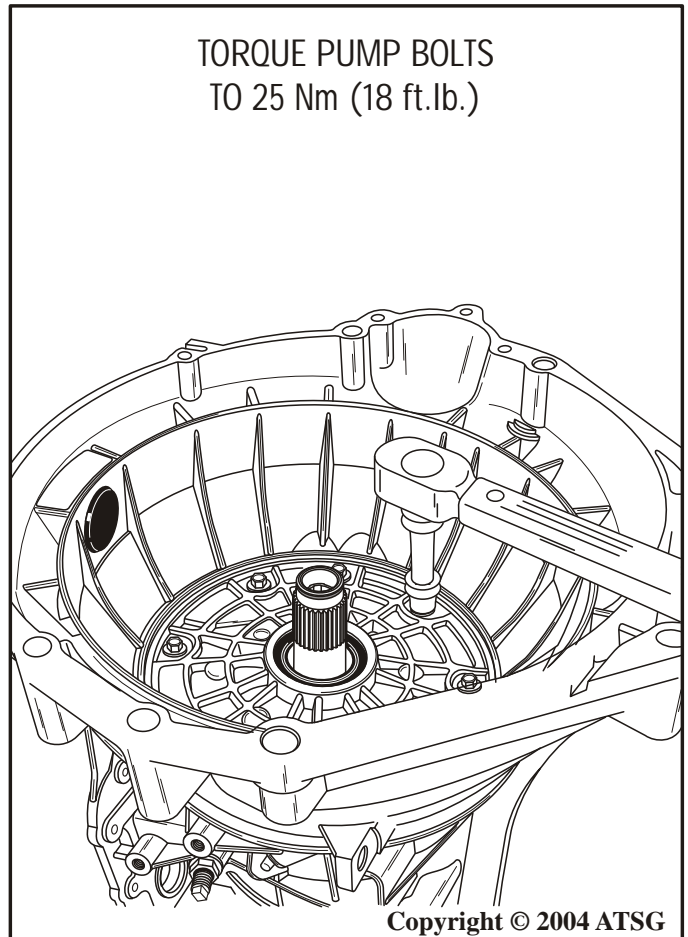

Figure 168
57. Install the eight oil pump assembly retaining bolts, and torque to 25Nm (18 ft.lb.), as shown in Figure 168.